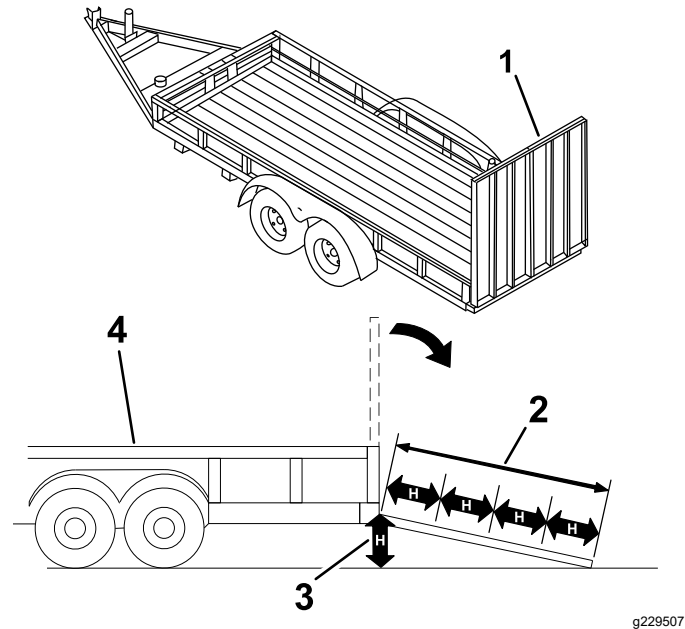

Figure 29
3. Lower the ramp (Figure 29).